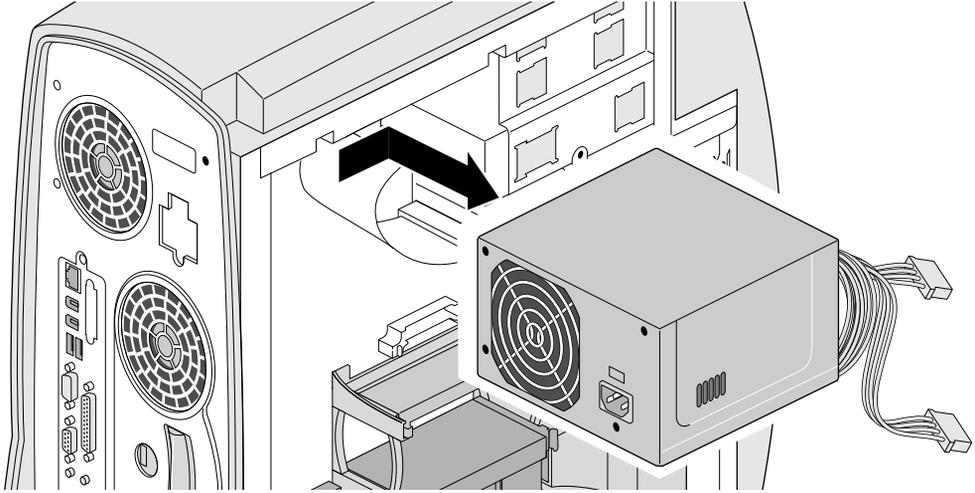

Figure 7-3 Removing the Power Supply from the System
6. Carefully remove the power supply, as shown in Figure 7-3.